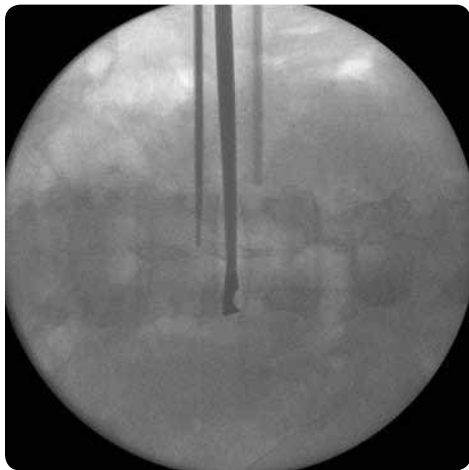

Figure 34
Step 8 Serrated Curettes, Rasps, a Ring Curette, a Uterine Curette and Combo Tools are used to ensure proper end plate preparation. It is extremely important that the end plates be meticulously prepared for fusion by removing the cartilaginous disc without destroying the cortical end plates (Figures 34 and 35).